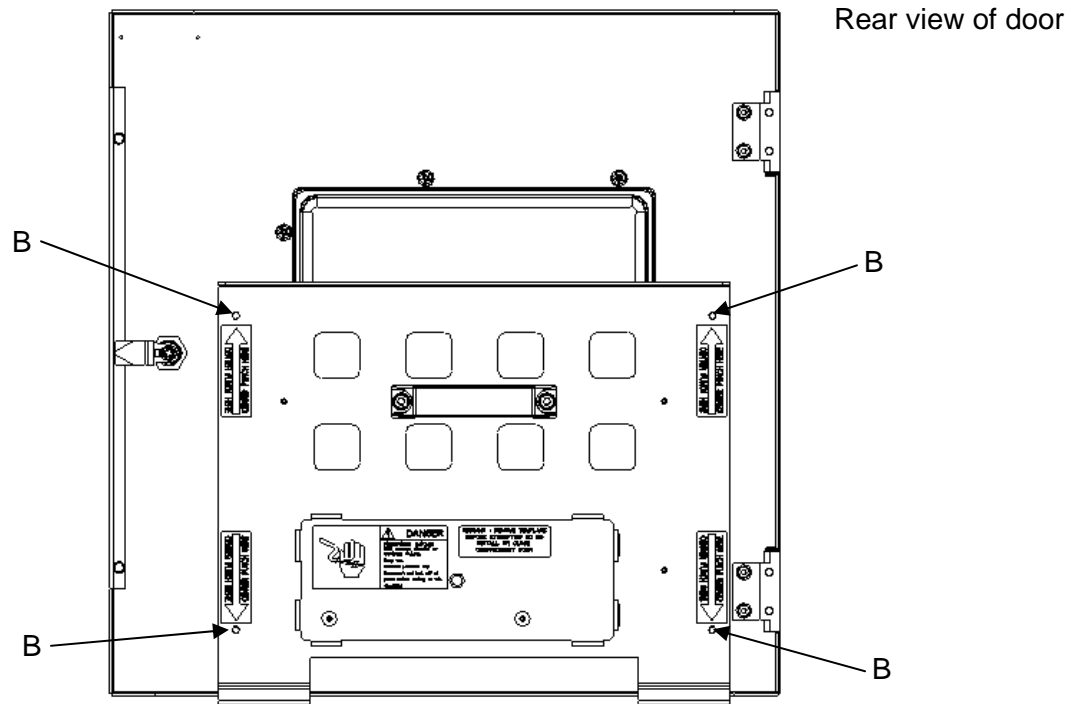

Fig. 2.2 Center Punch locations
- Using the transfer punch provided with the template, center punch the four hole locations. See Fig 2.2, item B.